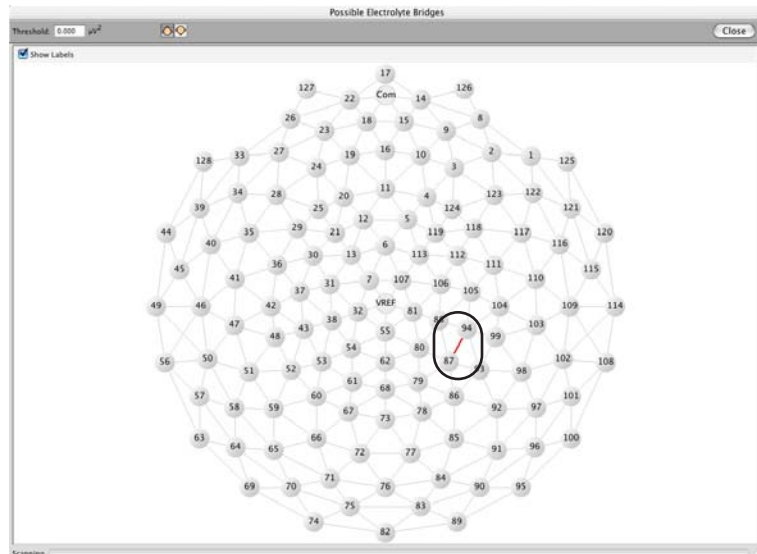

Figure 4-62. Electrolyte bridge results, with a bridge indicated between electrodes 94 and 87
- 4 Set the threshold and other values as desired, and allow the software to scan the electrodes; bridges will be indicated by thick red lines connecting the bridged sensors (Figure 4-62).